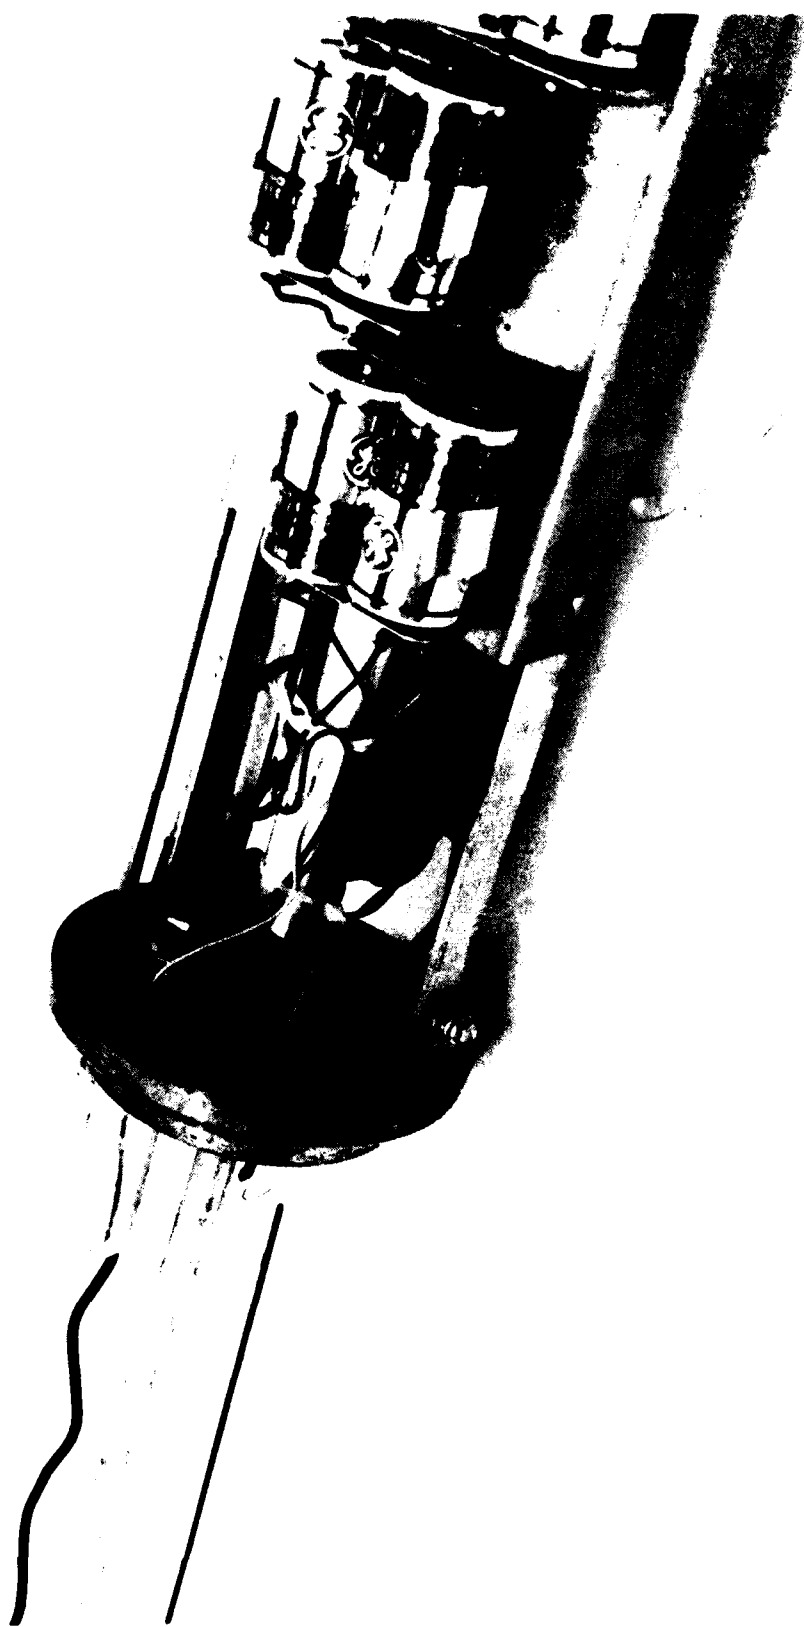

FIGURE 7
- l. Wrap electrical tape around the terminals of the noval plug and then strap it down against the antenna housing as shown in Fig. 7.